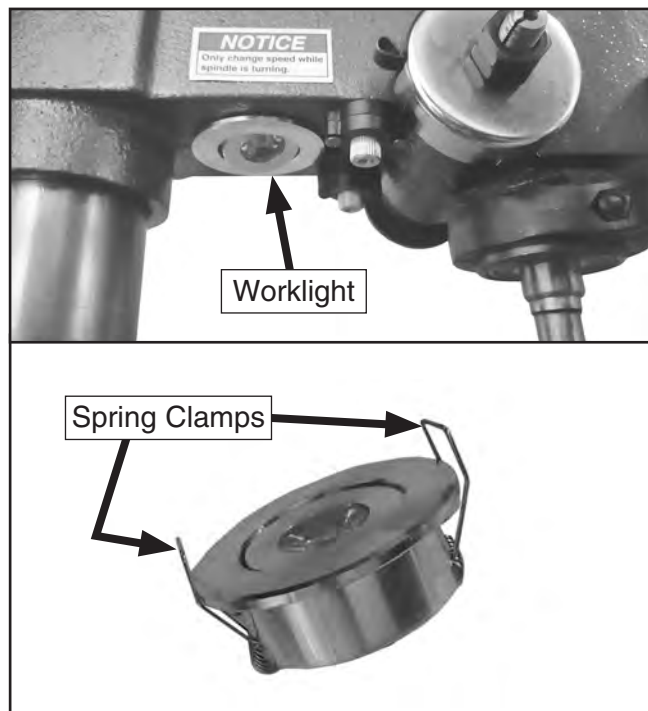

Figure 51. Worklight position and clamps.
2. Grip and pull worklight down through headstock hole to reveal spring clamps (see **Figure 51**). Quarter-turn the worklight to release clamps and worklight.